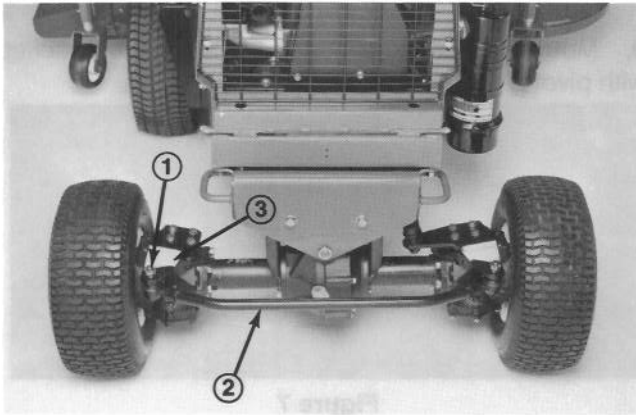

Figure 1
2. Position tires so ball joint ends align with holes in mounting brackets (Fig. 1). Secure ball joints to brackets with nuts and cotter pins. Torque nuts to 55-80 ft-lb (75-110 N-m).